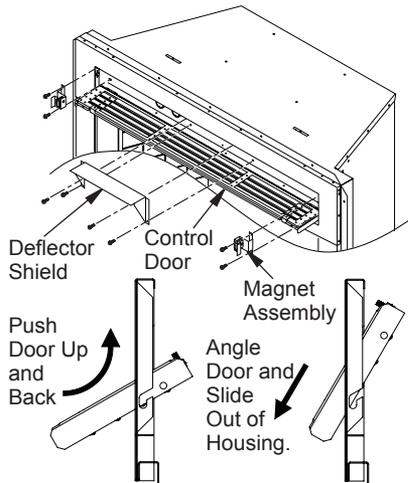

Figure 27 - Removing/Replacing Control Door
2. Remove 4 Phillips screws from deflector shield. Angle deflector shield out of opening (see Figure 27).
4. Lift up on inner control door and push in each end until pivot pins are free of notches located on each side of access opening (see Figure 27).